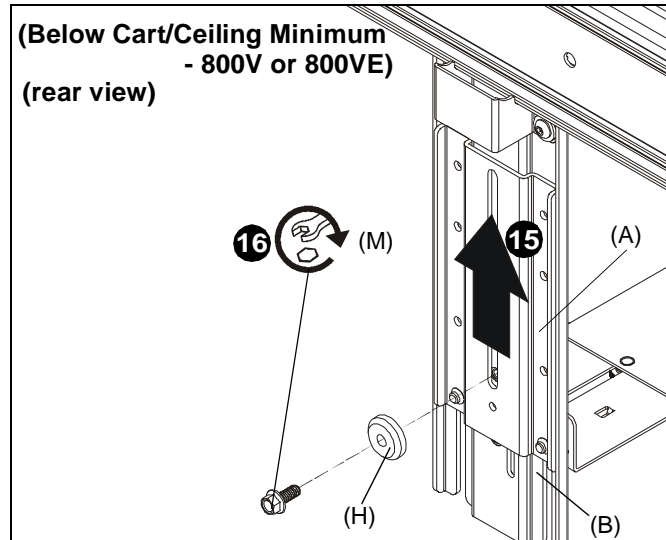

Figure 15
**NOTE:** For minimum extension on the FCA800VE model, the extender box holder (D) may be installed as part of the installation of the camera mount to the main bracket. Skip Step 16 if mounting the FCA800VE to minimum extension and installing the extender box holder (D).
15. (For **minimum extension**) Slide upright bracket (A) behind main bracket (B). (See Figure 15)
16. (For **minimum extension - 800V or VE**) Use 1/4-20 x 5/8" hex head flange bolt (M) and center washer (H) to secure upright bracket (A) to main bracket (B). (See Figure 15)